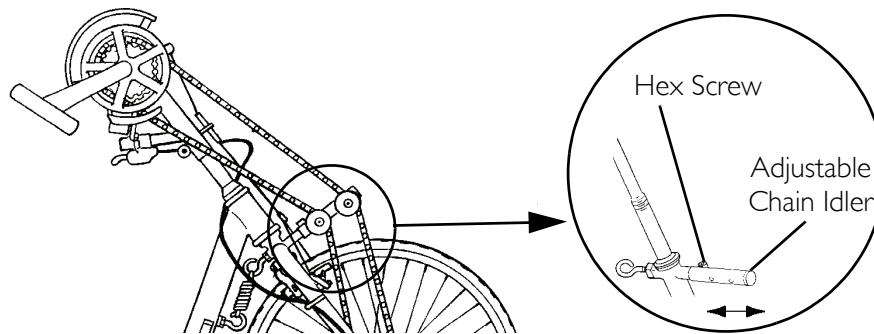

FIGURE 8.7 Adjusting Seven Speed Hub Chain
NOTE: For this procedure, refer to FIGURE 8.7 on page 55.
3. Adjust the tautness of the chain by moving the adjustable chain idler in or out as shown in FIGURE 8.7.